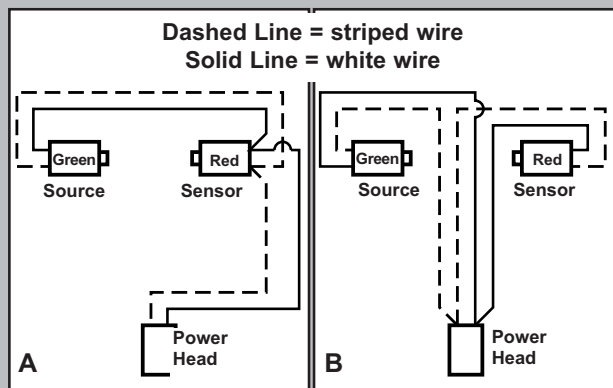

FIG. 3-5 STB wiring methods.
- Route wire using either method shown (**Fig. 3-5**).